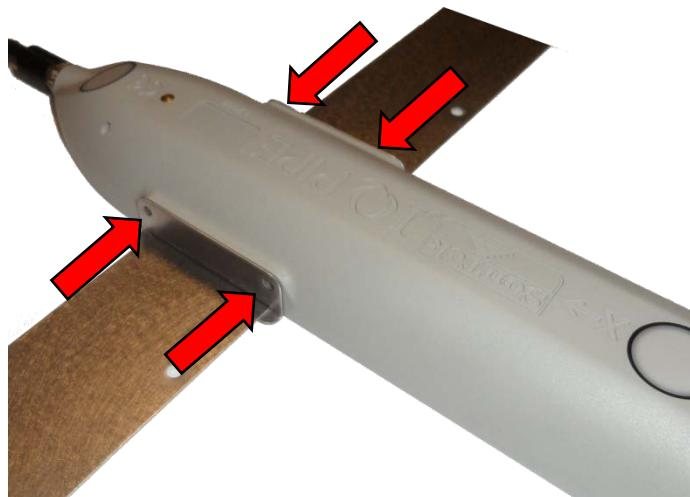

Figure 13. Slide and Attach the Brackets
- Using the two mounting brackets attached to the Pipe Ring, attach the SonTek-IQ Pipe using the provided screws (Figure 13).